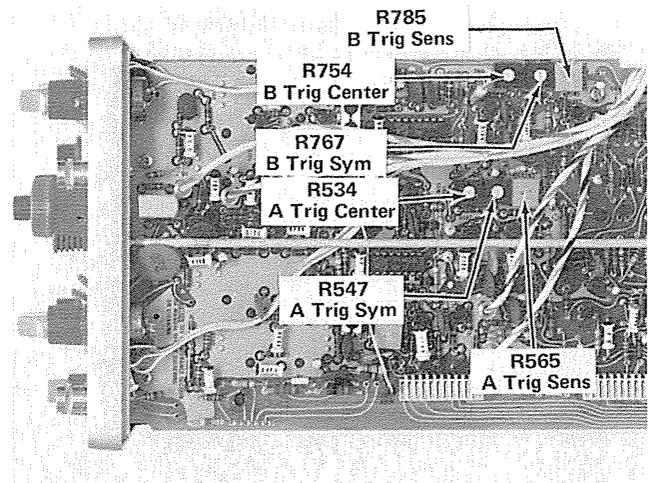

Fig. 5-20. Location of Trigger Sensitivity, Symmetry, and Centering adjustments.
g. ADJUST—A Trigger Sensitivity adjustment, R565, (see Fig. 5-20) so that a stable display can just be obtained by rotating the A LEVEL control.
e. ADJUST—B Trigger Sensitivity adjustment, R785 (see Fig. 5-20) so that a stable display can just be obtained by rotating the B LEVEL control.
e. ADJUST—B Trigger Symmetry adjustment, R767 (see Fig. 5-20), so that the trace begins at the same point in both slopes of the displayed waveform.
f. ADJUST—B Trigger Centering adjustment, R754 (see Fig. 5-20), for the trigger point of the display to be at the graticule center.
c. ADJUST—A Trigger Symmetry adjustment, R547 (see Fig. 5-20), so that the trace begins at the same point in both slopes of the displayed waveform.
d. ADJUST—A Trigger Centering adjustment, R534 (see Fig. 5-20), for the trigger point of the display to be at the graticule center.